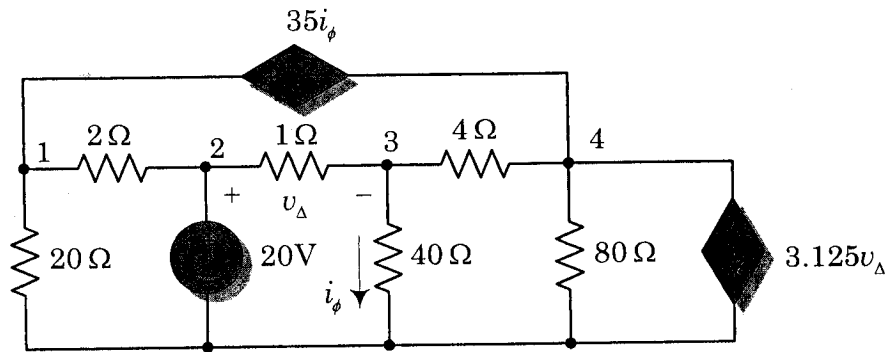

Figure Q3(a)
- Use the node-voltage method to find v_1 , v_3 and v_4 in the circuit shown in Figure Q3(a).